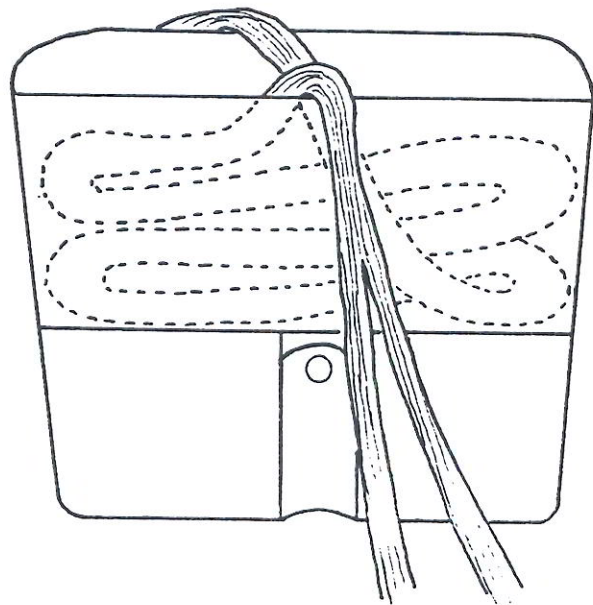

FIG. 7
- 8) Thread the pull-up cord through the closing loop and close each side flap in turn, routing the bridle out the bottom of the container. Try to keep the bulk of the canopy away from the center of the container while closing the side flaps. Secure the side flaps with the temporary pin (FIG. 7), then push the tuck flaps in under the folded canopy at the upper edge of each side flap.
- 6) After the two locking stows are made, stow the remainder of the suspension lines (to within 6" to 12" of the connector links) in the line-stow pouch on the back of the bag. This is where it is useful to use the velcro strips mentioned in the list of optional tools. Cover the hook velcro on the pouch with the strips of loop velcro while stowing the lines in the pouch. Make the "S" folds of the lines the full width of the pouch. To close the pouch, remove the strips of loop velcro and mate the velcro at the mouth of the pouch, being sure that none of the suspension lines are captured by the closure (FIG. 7).